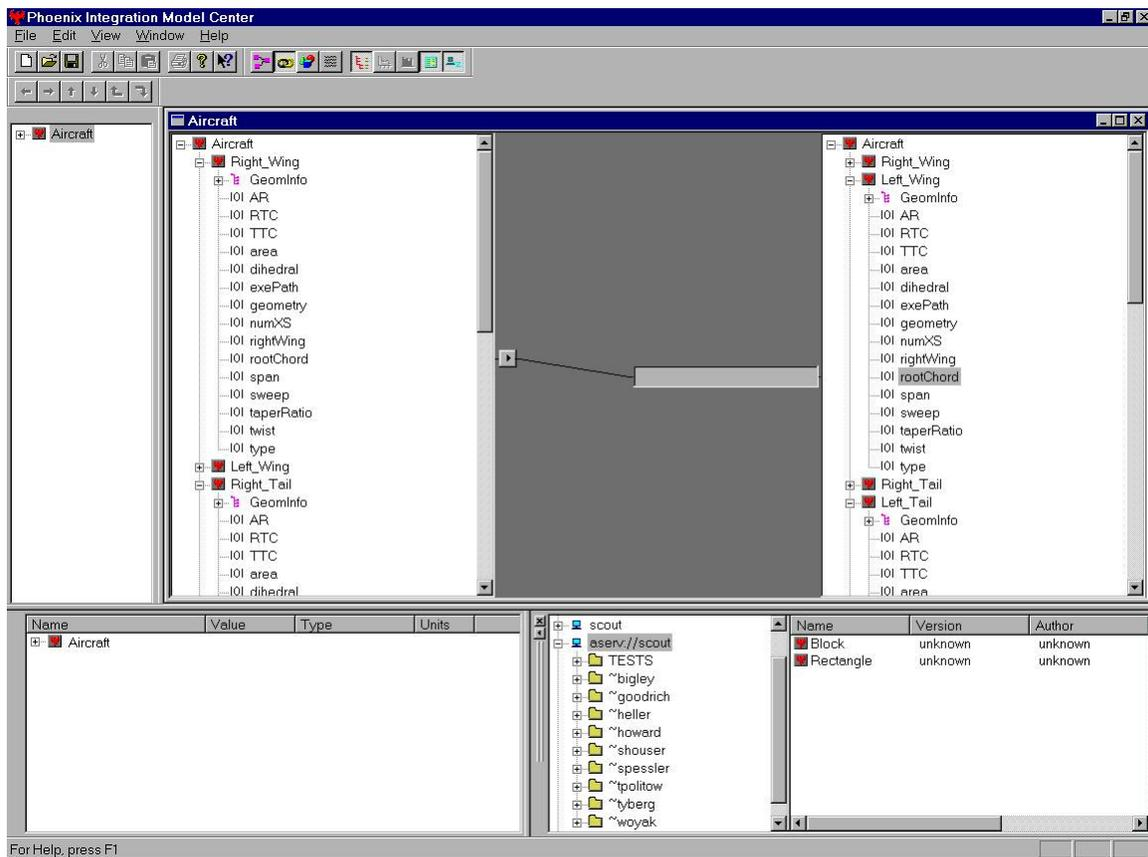

Figure 30. Link Editor showing the rootchord of the Right_Wing linked to the Left_Wing.
2. Now, as shown in the tutorial, click on rootchord underneath Left_Wing, then drag the rootchord over from the Right_Wing over to the box next to rootchord of the Left_Wing. After this is done the screen should look like the screenshot shown in Fig. 30: